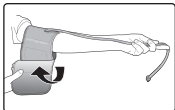

Fig. 2
4. Align the hose with your brachial artery, slightly to the right on the inside of the bend of the elbow, Fig 2.